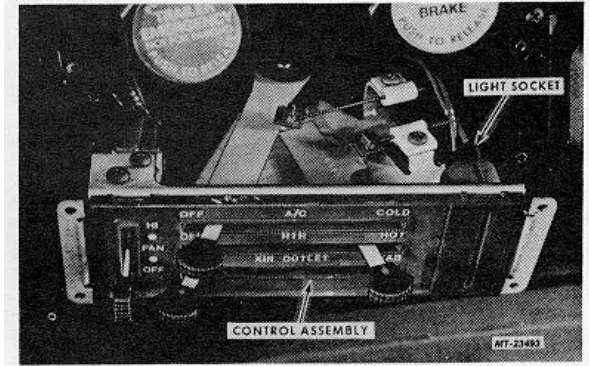

Fig. 19 Heater/Air Conditioning Control Light
2. Rotate light socket (Figure 19) clockwise (as viewed from rear of vehicle). Pull light socket (with bulb) from control assembly.